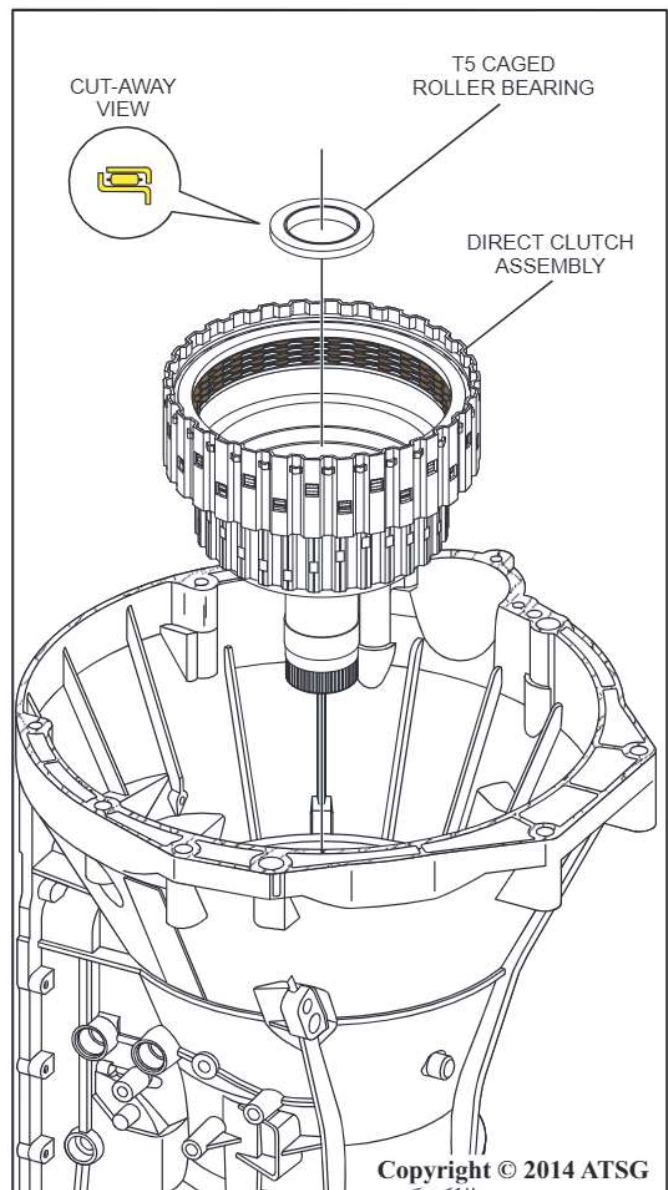

Figure 50
29. Lift and remove the T5 caged roller bearing from the transmission as shown in Figure 50.
30. Remove the direct clutch assembly as shown in Figure 50 and set aside for disassembly and cleaning.